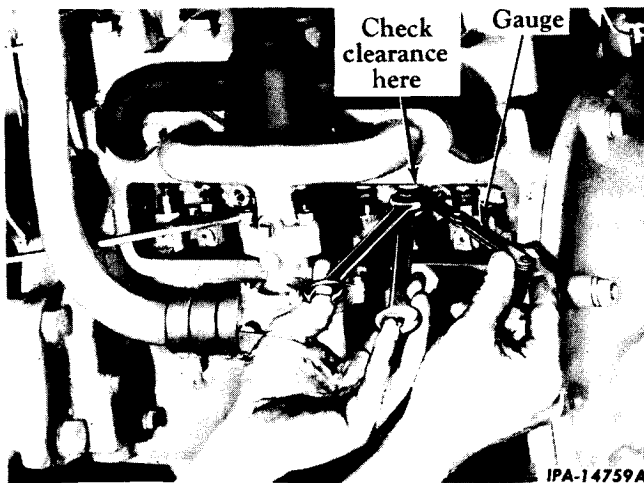

Fig. 12 - Adjusting and Checking Valve Clearance (60 Series)
7. 60 SERIES ONLY: Use two thin wrenches when adjusting the valve clearance (Fig. 12).